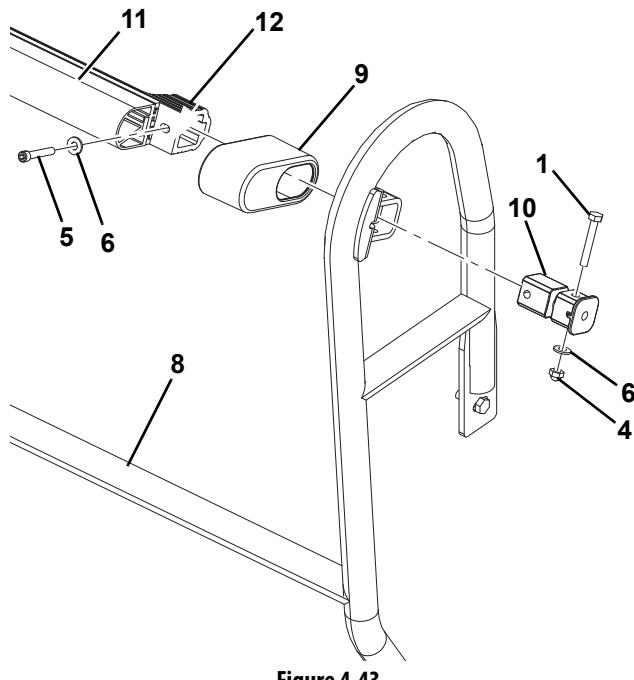

Figure 4-43.
4. Position SkyGuard switch assembly with sensor cover onto the SkyGuard Support Bracket (**8**) as shown in *Figure 4-43*.
- Insert a Shear Block Support (10) through shear block housing on the SkyGuard support bracket and into the platform sensor mount. See Figure 4-43.
- Secure the shear block on welded mount of SkyGuard support bracket using Bolt (1), relevant Washer (6) and Acorn Nut (4) as shown in Figure 4-43.
- Secure the SkyGuard switch assembly using Bolt (5) and relevant Washer (6) on platform sensor mount. See Figure 4-43.
WHEN THE SKYGUARD IS PUSHED WITH EXCESSIVE FORCE THE SENSOR SUPPORTS (ITEM 10 - FIGURE 4-43.) WILL BREAK. REPLACE WITH NEW SENSOR SUPPORTS BEFORE CONTINUING OPERATION OF THE MACHINE.